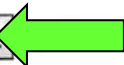

Figure 13
- Hold the scan tool approximately six (6) inches away from the label.
- VIN will automatically populate (Figure 13 on page 9).